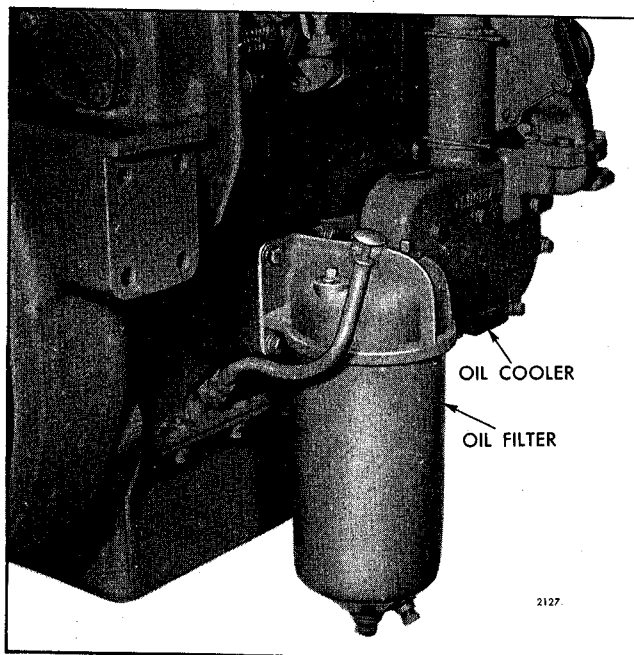

Fig. 13 - Typical In-Line Engine Oil Filter Mounting
1. Remove the drain plug and drain the oil (Figs. 13 and 14).